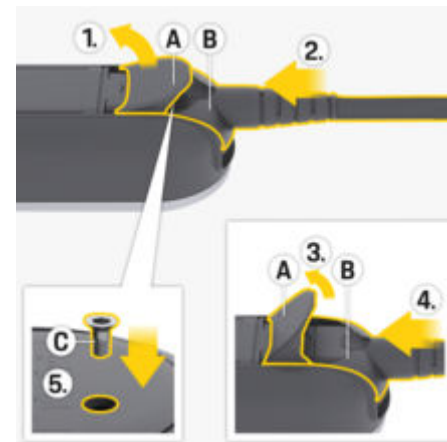

Fig. 14 Securing supply cables and plugs
1. Open the cover **A** (Fig. 14) by about 15 degrees (just far enough so that the plug **B** (Fig. 14) fits in the control unit).
2. Insert the plug **B** (Fig. 14) into the control unit until resistance is first felt.
3. Fully open the cover **A** (Fig. 14).
4. Push in the plug **B** (Fig. 14) fully.
5. Close the cover **A** (Fig. 14) fully and fasten with screw **C** (Fig. 14).